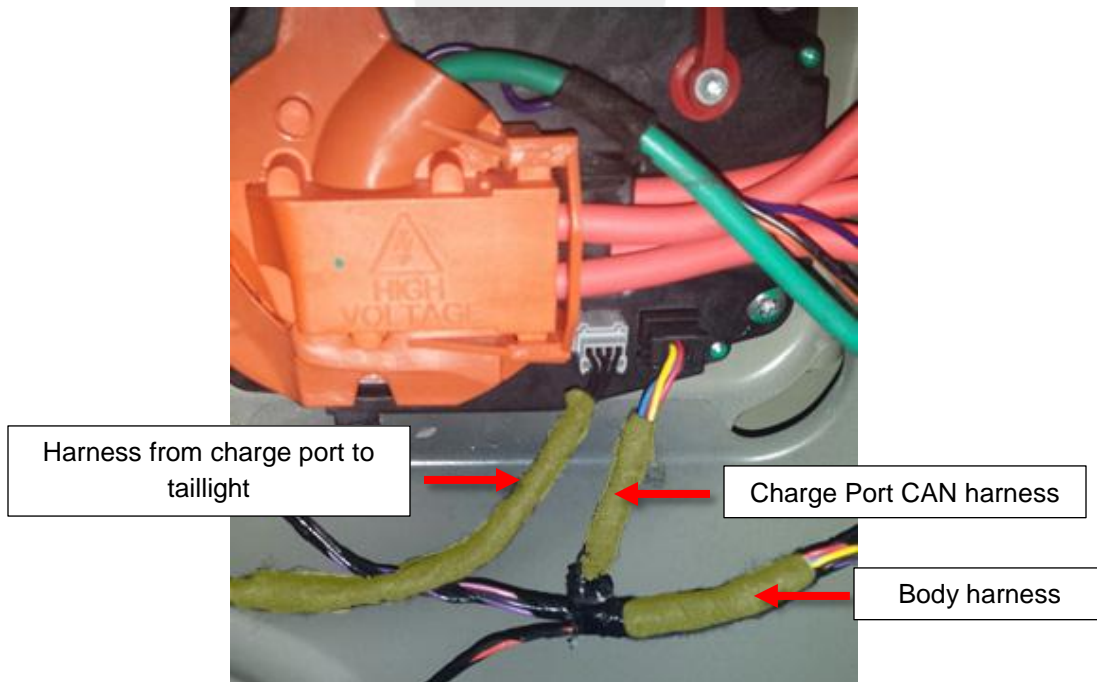

Figure 9 (Cloth tape highlighted in yellow)
12. Wrap cloth tape around the harnesses near the charge port as shown (Figure 9).